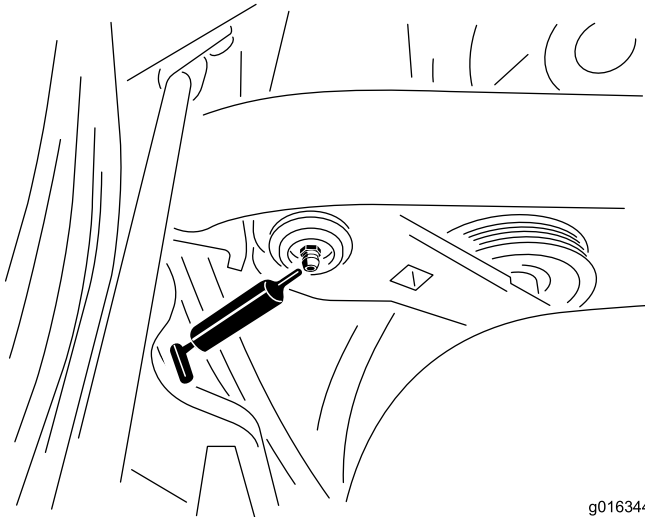

Figure 39
1. Wipe the grease fitting clean so foreign matter cannot be forced into the bearing or bushing (Figure 39).